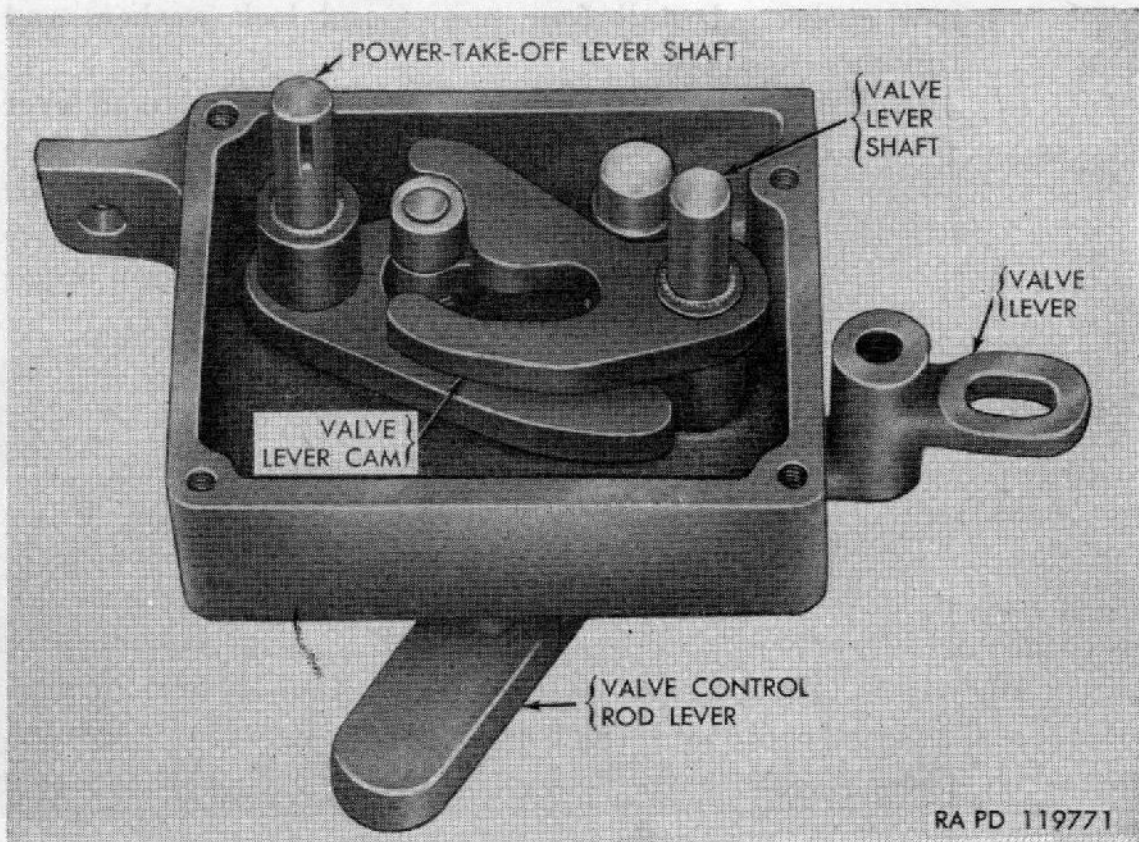

Figure 164. Control box assembled without cover.
- (b) Assemble valve lever cam and shaft and install in housing (fig. 164). Actuating lever shaft has two keyways. Insert Woodruff key and install valve-control-rod lever so that lever will extend below bottom of box when assembled. After valve-control-rod lever is installed, check to see if upper shafts and roller pin can be aligned. The extended tip of power-take-off cam may interfere with hub of valve cam. File tip of cam until alinement is secured. To check position of shaft in valve lever cam, note that keyways must move equidistant above and below a horizontal center line when roller cam is in extreme positions.